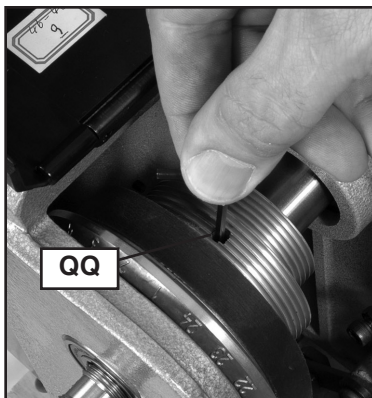
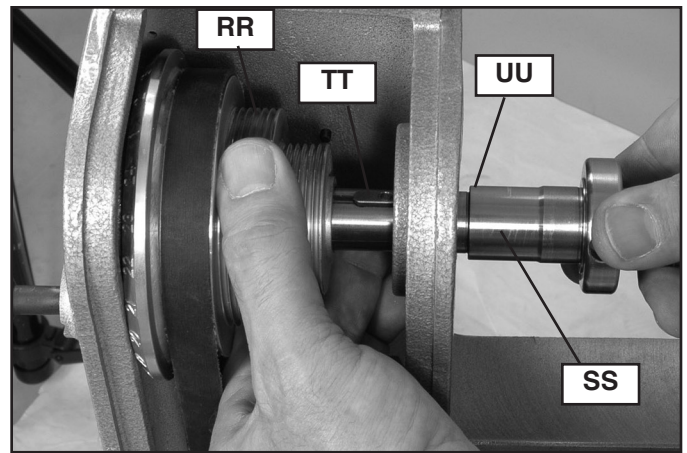

Fig. 33
Fig. 35
7. Loosen spindle pulley set screw (QQ) Fig. 33 with included hex wrench.
11. Place spindle pulley (RR) inside headstock (as shown in Fig. 35) and hold as you insert the spindle shaft (SS) through headstock and pulley. Take care to align the shaft key (TT) with the pulley keyway (not shown).
12. Be sure the pulley seats firmly against the shaft shoulder (UU).
13. Tighten pulley set screw (QQ) Fig. 33 firmly.